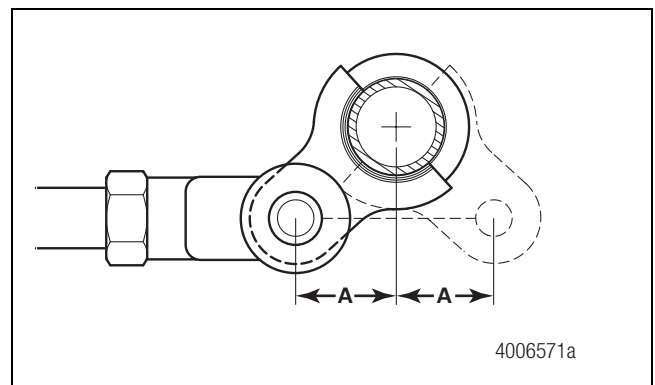

Figure 12
13. Activate the service chamber, using 100 PSI shop air, to verify that all four pins fully retract. The service chamber clevis pin must travel an equal distance on both sides of the torque tube centerline. Refer to dimension A in Figure 12.